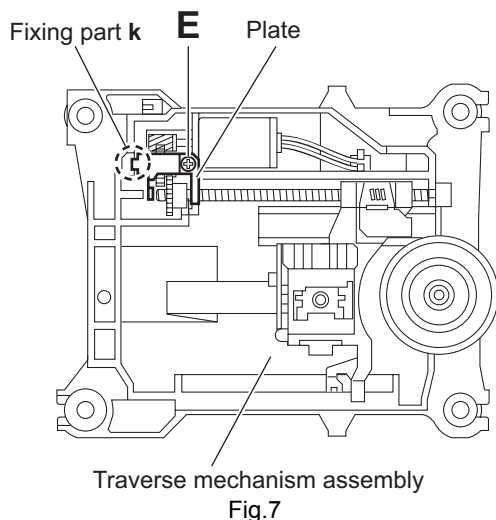

Fig.7
3.2.5 Removing the pickup (See Fig.7 to 9)
- (1) Remove the one screw **E** attaching the plate from upper side of traverse mechanism assembly. (See Fig.7)
- (2) Remove the plate from fixing part **k** then take out the plate. (See Fig.7)
3.2.6 Attaching the pickup (See Fig.7 to 10)
- (5) Attach the plate. (See Fig. 7)